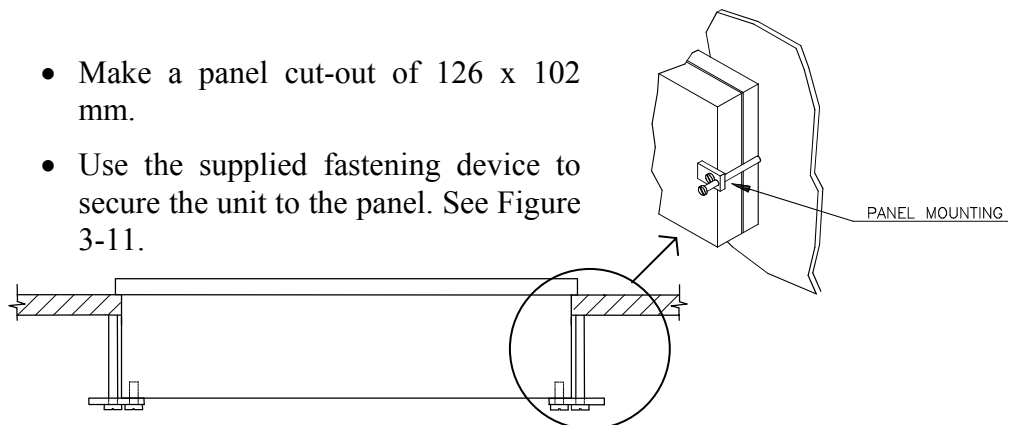

Figure 3-11 RI35 Mk2 Panel mounting
- Use the supplied fastening device to secure the unit to the panel. See Figure 3-11.